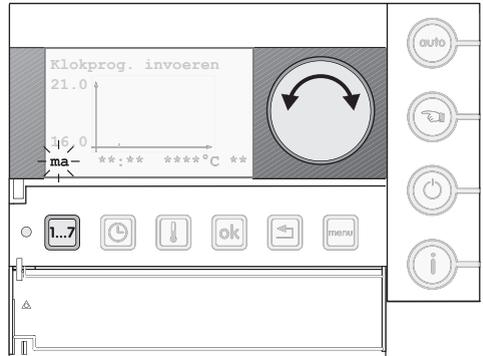

Fig. 22 Set-up day time program
- Keep the button "day" pressed and select with the set-up button the desired day or day-series (Fig. 22).